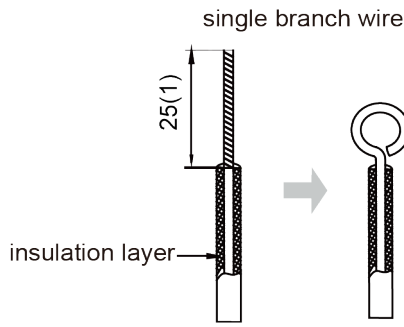

Fig.13
(1) The connection of wire (as shown in fig.13)